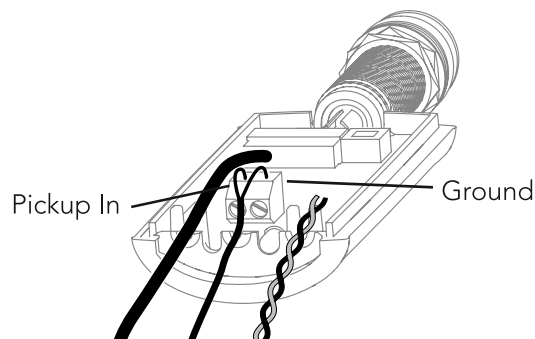

Figure 2.
5. Open the preamp body by unscrewing the single screw on the side opposite the Matrix Infinity logo. Flip the preamp over so the circuit board remains in the plastic housing (figure 2).